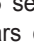

Fig. 7.10
- At the end of the procedure, the display will show the following (Fig. 7.10).